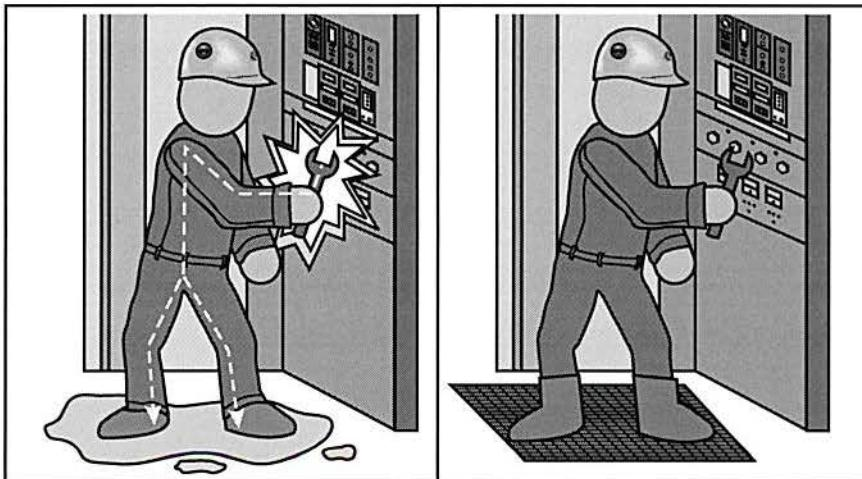

Figure 30. Do Not Work on Wet Floors
- **Do not work on wet floors.** Water decreases the resistance between the body and ground, increasing the possibility of severe shock, as shown in figure 30. It also increases the possibility of slips. Try to work on a rubber mat or an insulated floor when possible, as also shown in figure 30.